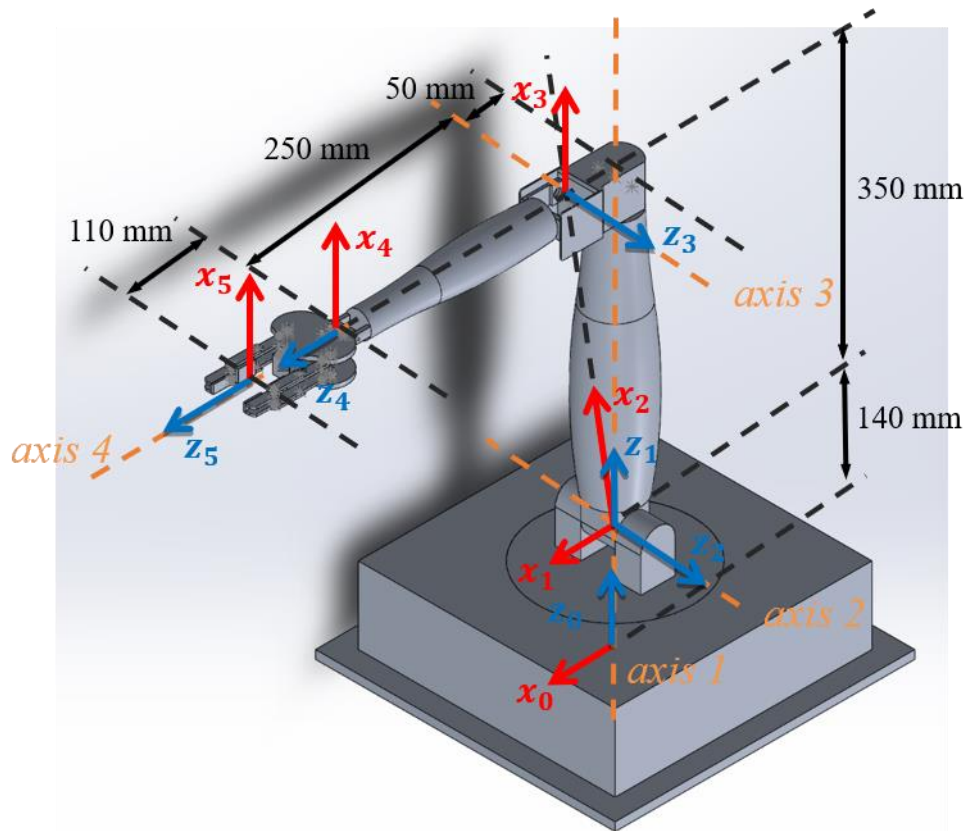

Figure 2: QArm dimension and joint coordinates.
- Refer to Figure 2 for frame definitions and dimensions.